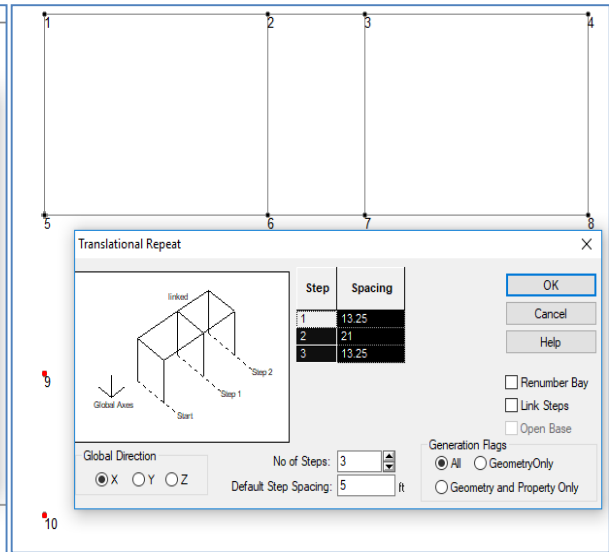

Fig: 5.5
1.2.3 Now select the column node no 5 & 8 from the 2nd row →Geometry →Translational Repeat →Select Global Direction = Z → No of Steps =2 → now write down the column spacing from your Column Layout Plan as (Step1 =12.25, Step2 =11) →OK (Figure: 5.4). Again select the column node no 9 & 10 by using node cursor →Geometry →Translational Repeat →Select Global Direction = X → No of Steps =3 → now write down the column spacing from your Column Layout Plan as (Step1 =13.25, Step2 =21, Step1 =13.25) →OK (Figure: 5.5)